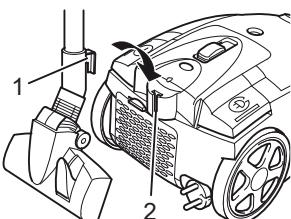

Fig. 16
■ When **setting the appliance aside** or during work breaks, you can hang the parking hook (Fig. 16/1) into the parking hook mount (Fig. 16/2).